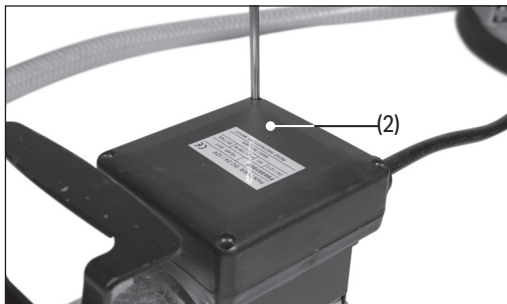

Fig. 10
1. Unscrew and remove the fuse access cover (2) (Fig. 10).